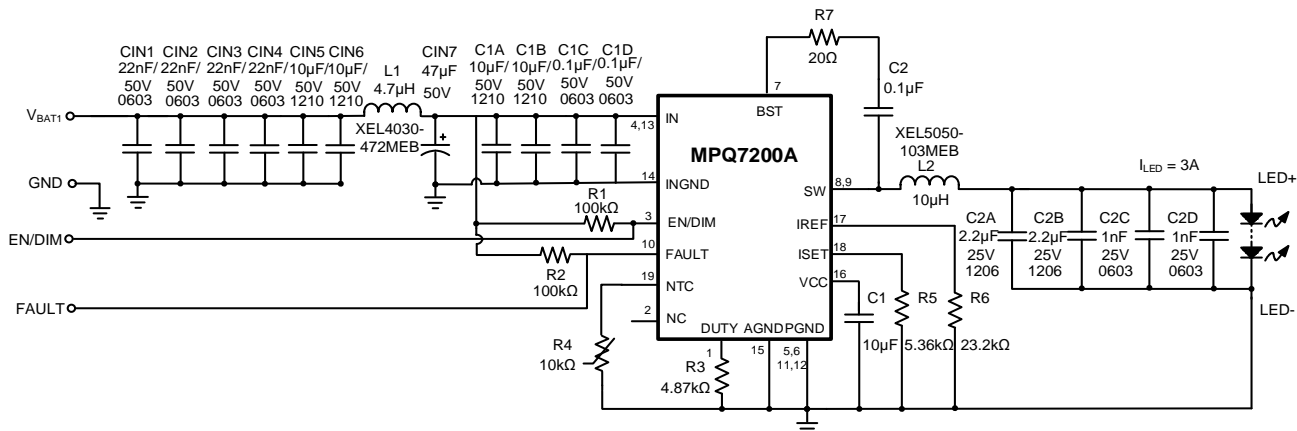

Figure 9: $I_{LED} = 3A$ Buck Application Circuit (No Two-Step Dimming)
16) The recommended layout is based on Figure 9 on page 54.